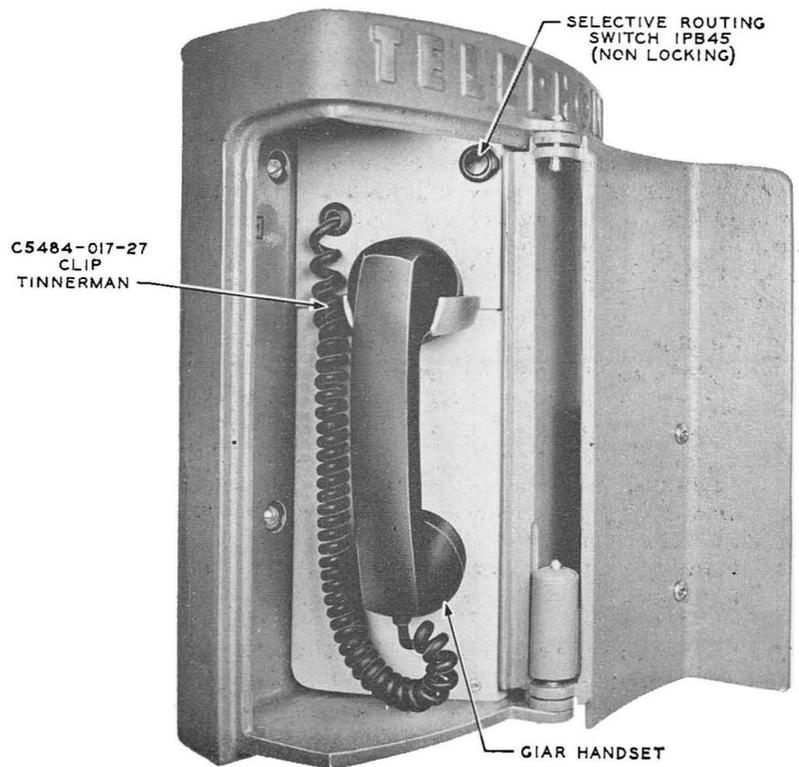

FIG. 4 — 570-TYPE TELEPHONE SET WITH DOOR OPEN SHOWING HANDSET AND SELECTIVE ROUTING SWITCH
3.11 Component parts of the 570-type telephone set are shown in Figs. 4 and 5.
3.12 A push-button nonlocking-type microswitch for selective routing is provided on some types of sets (see Fig. 4). This switch is required when the telephone set is to be used for communication with *both* the fire and police departments. To route the call to police headquarters the push button must be held depressed during the time the handset is lifted from the hook. After the handset is lifted from the hook the push button should be released. The type of circuit used, as shown in Figs. 7 and 8, is governed by the type of equipment installed in the central office.